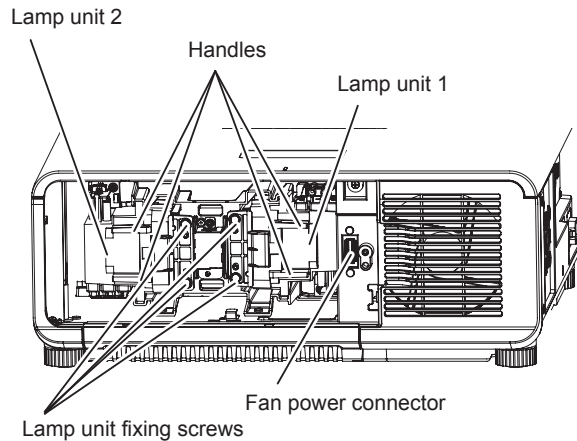

Fig. 2
2) Pull out the air filter case. (Fig. 2)
- 3) Remove the lamp unit. (Fig. 2)**